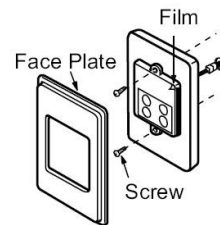

Fig. 4
6. Fix the controller to the wall and fasten with the Phillips head screws supplied as shown in (Fig.4).